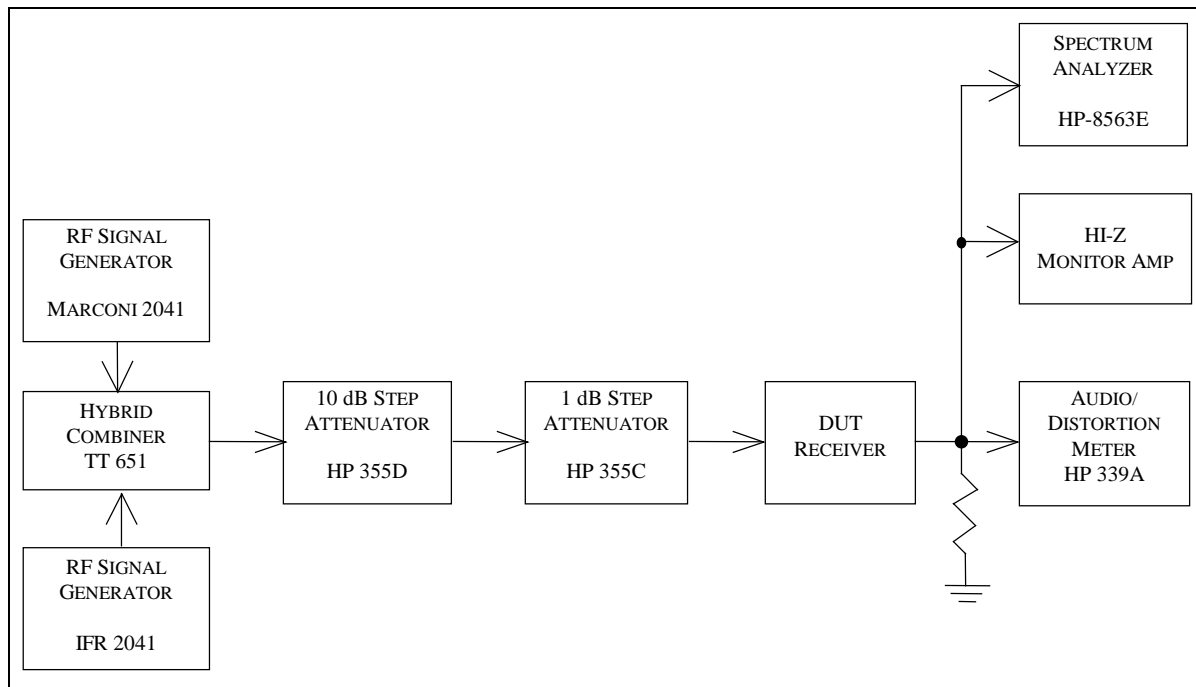

Figure 5-16 Notch Filter Test Hook-Up
5.16.2 Test Hook-up (See FIGURE 5-16) Note: If proceeding from the previous In-Band IMD Test, only the hook-up changes shown with a dotted line are required.